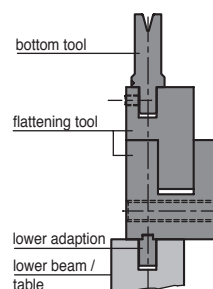

Fig. 4.8
- in the clamping slot in the table or lower beam using a tang on the bottom (Fig. 4.8).